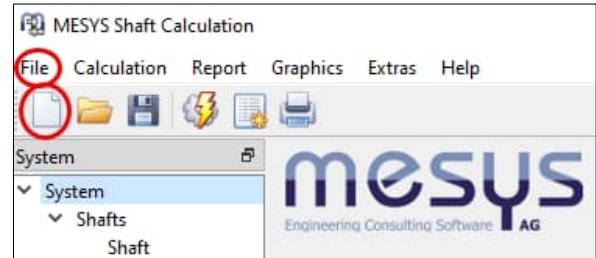

Figure 8
- ➔ Start the MESYS shaft calculation or open a new file via the "New" icon or the File menu item and select 'New' (Figure 8)